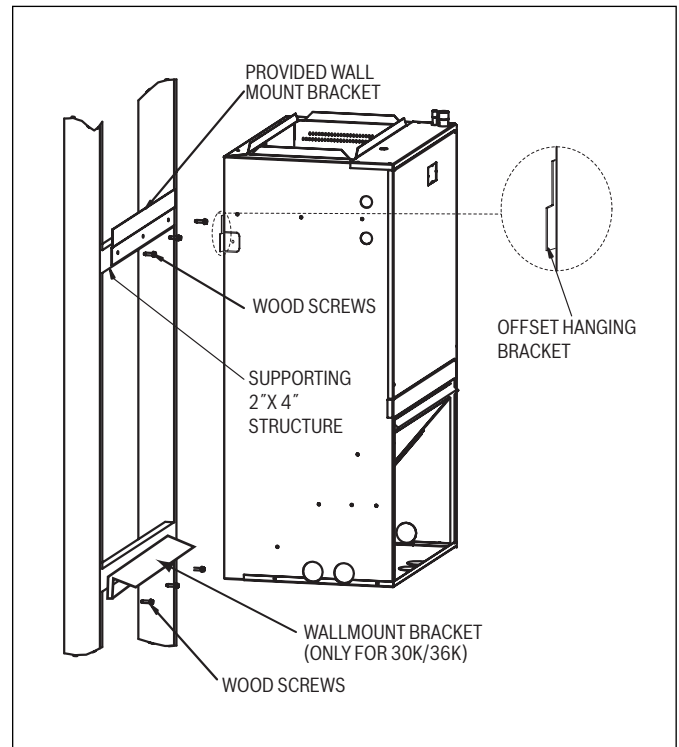
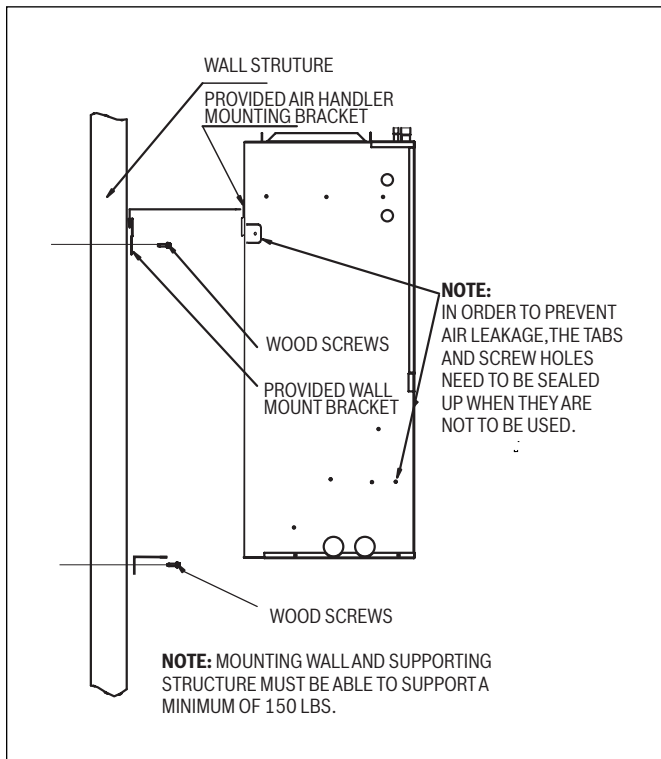

Figure 5 Wall Mounting
Figure 4 Wall Mounting Side View
The air handler comes standard with a wall mounting bracket and air handler mounting bracket. Reference Figures 4 & 5 for more detail.
3. Lift the air handler above the wall mounting bracket and attach the unit to the installed bracket. Reference Figures 4 & 5. Install the additional bottom support plate for extra support for this type mounting (see Figure 5).